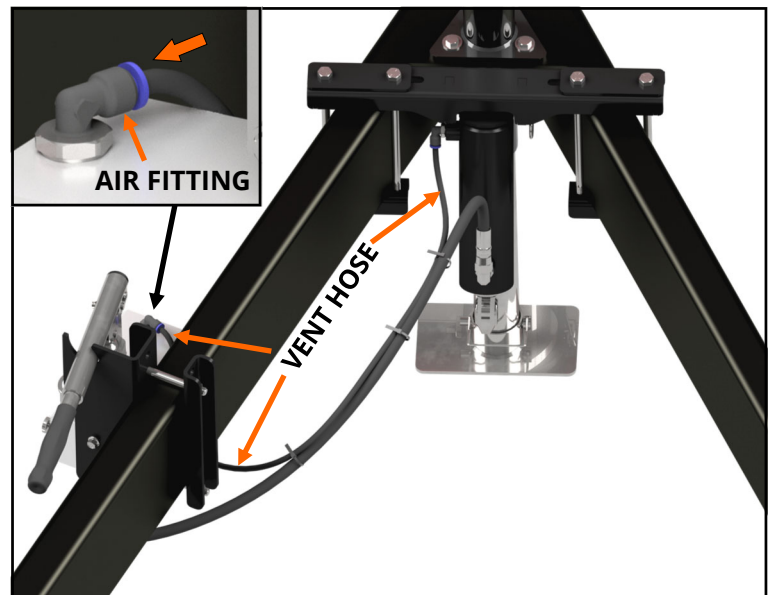

FIGURE E2: View looking at inside of the A-frame.
3. **Complete vent hose installation.** Pull the vent hose up between the frame and the hydraulic pump unit. Push in on the blue fitting to remove the plug from the air hose fitting on the top of the hydraulic pump. Cut the vent hose to length and insert the cut end into the air fitting and press in firmly, **see Figure E2**.